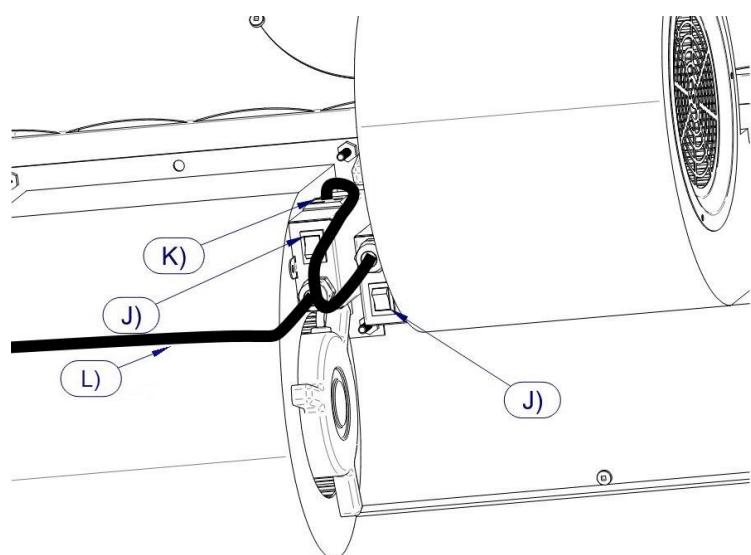

FIGURE 14
12. Connect the power supply (A) to the electrical box.
13. Connect the blower (B) (see wire L figure 14) with the junction box fitted with a thermodisc to the electrical box.
14. Connect the thermostat junction box to the power supply (C).
15. Connect the fan control module (D) to the electrical power supply box.